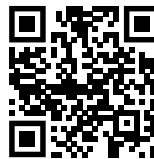

Fig. 84
- ▶ Отворете [Liebherr SmartMonitoring Dashboard](https://smartmonitoring.liebherr.com). (виж Fig. 84)